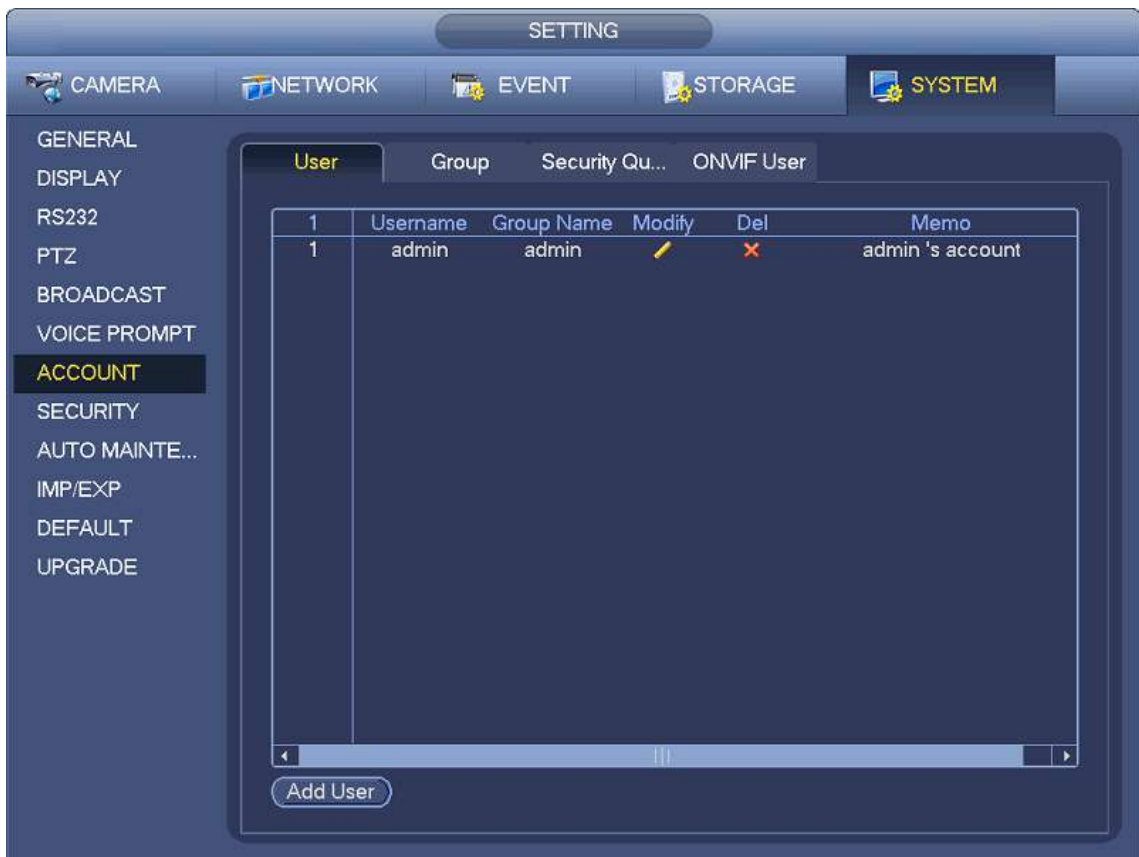

Figure 4-220
Enter user interface. See Figure 4-220.
Step 2 Click Add user button in Figure 4-220.